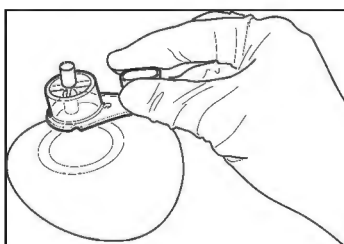

Figure 3
3. Holding the ELD as indicated in figure 3; place the base of the ELD holder on the patient tissue over the implanted tissue expander.